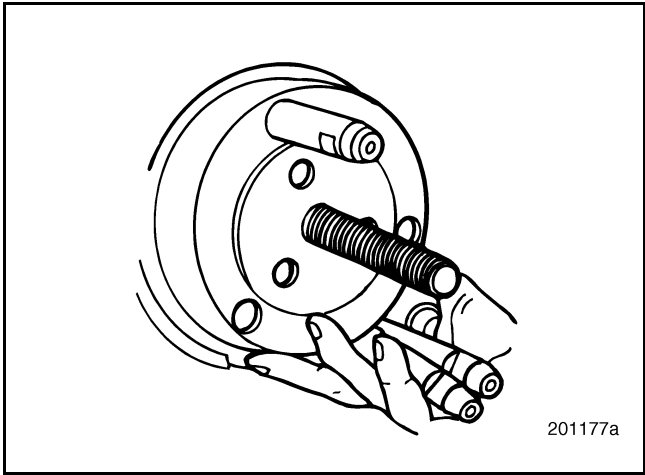

Figure 343 — Adapter Plate J 37716-B Installation
3. Using the three guide pins, attach the adapter plate to the crankshaft flange. Refer to Figure 343.